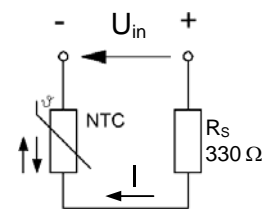

Fig. 3.1.3.1: Series circuit with NTC
- In the circuit in Fig. 3.1.3.1, a protection resistor R_s is connected in series with an NTC. At $\vartheta = 25^\circ\text{C}$ and $U_{in} = 20\text{ V}$, the current flow stabilises at $I = 4\text{ mA}$. Determine by calculation, the values of: R_{NTC} , R_{tot} , U_{NTC} , U_{R_s} .